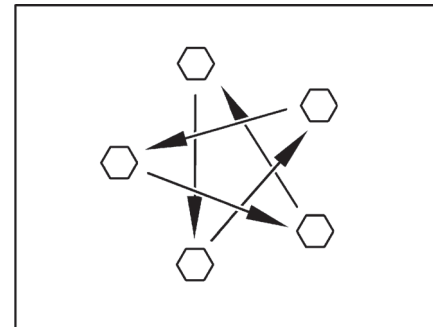

Fig. 142 Tighten the wheel nuts or wheel bolts cross-wise
- Check regularly that the wheel nuts or wheel bolts are firmly seated. Re-tighten the wheel bolts of a changed wheel cross-wise after 50 km (30 miles) (Fig. 142).
- ▶ Tighten the wheel nuts or wheel bolts cross-wise (Fig. 142).